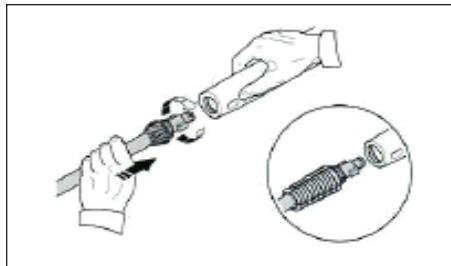

Figure 10 - Attach lance to gun.
8. Attach lance to gun (see Figure 10).